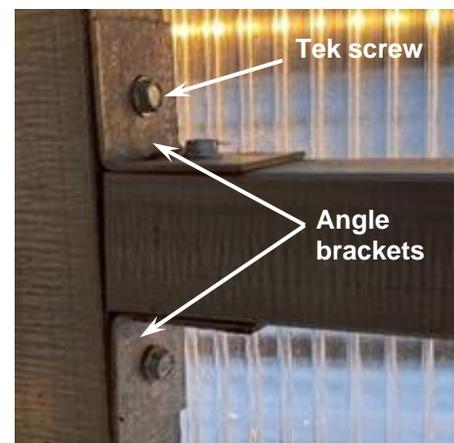

Figure 2: Securing horizontal beam to door frame with angle brackets.
5. Install the top of the door frame between the two vertical beams using $1\frac{1}{2}$ " angle brackets on both the top and the bottom of the horizontal beam and 1" Tek screws (see figure 2).